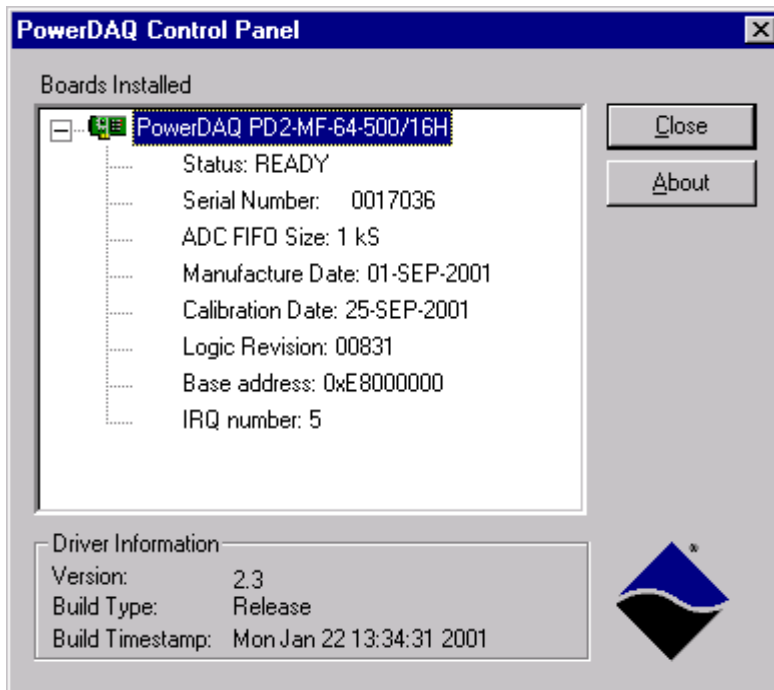

Figure 3.2—Control Panel Application
- Select **Programs → PowerDAQ → Control Panel**: from the **Start** menu (see Fig 3.2). If the Control Panel applet is displayed and correctly identifies your PowerDAQ board, the installation is correct.